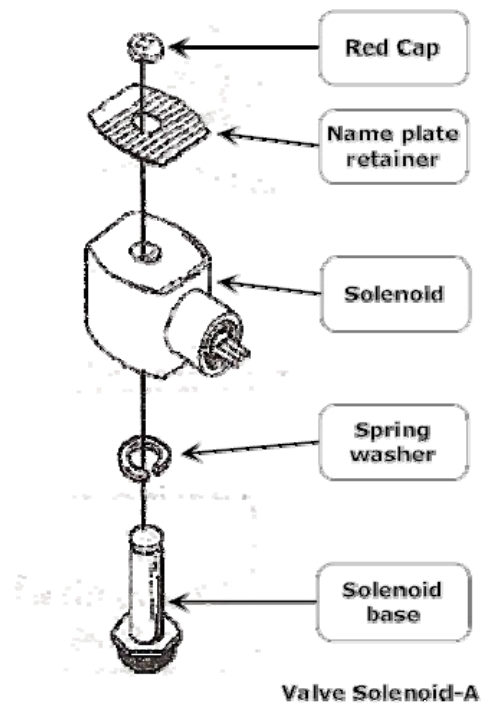

Figure 21: Valve Solenoid Assembly
3. If the magnetic fields are present, listen for any of the valves making a chattering sound. If chattering is heard, replace the valve assembly with VST P/N GM-006. **See Figures 21 and 22.**
See Figure 21